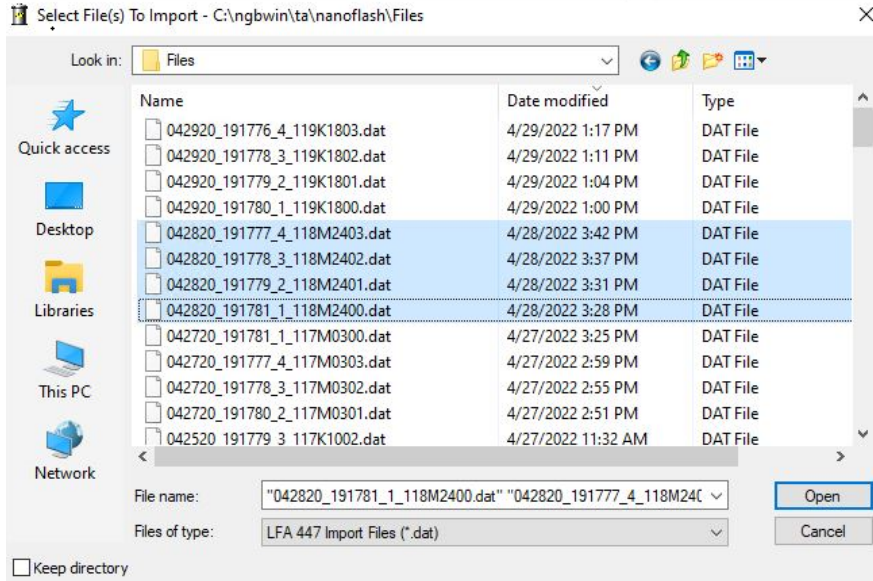

Figure 33. Highlighted files to be imported into the selected database.
- Select the file(s) to be imported and click Open (as shown in Figure 33).